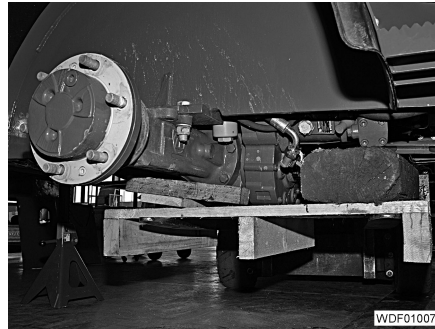

Fig. 303 Rear axle support
- Provide a suitable support for the rear axle (e.g. pallet and lifting carriage) (Fig. 303).